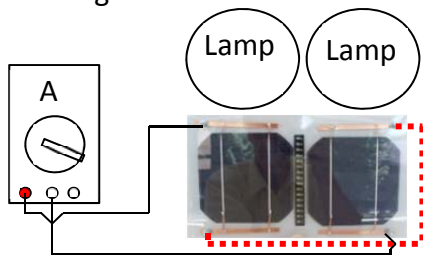

Fig. 2.4: Connections for measuring short circuit current for solar cells connected in series
Connect the two cells in series and use the amp meter to measure the short circuit current as shown in Fig. 2.4
- Next, connect the cells in series and set-up the current meter to measure the short circuit current output from the PV module (see Fig. 2.4). Cover the cells by the various amounts listed and **record** the **measured currents** in Table 3.3.